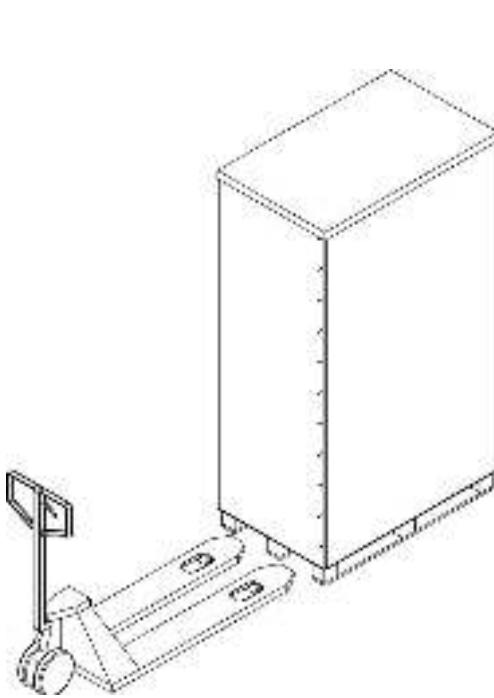

Figure 2-9
1. Use a forklift to move the product to installed area. Refer to Figure 2-9.